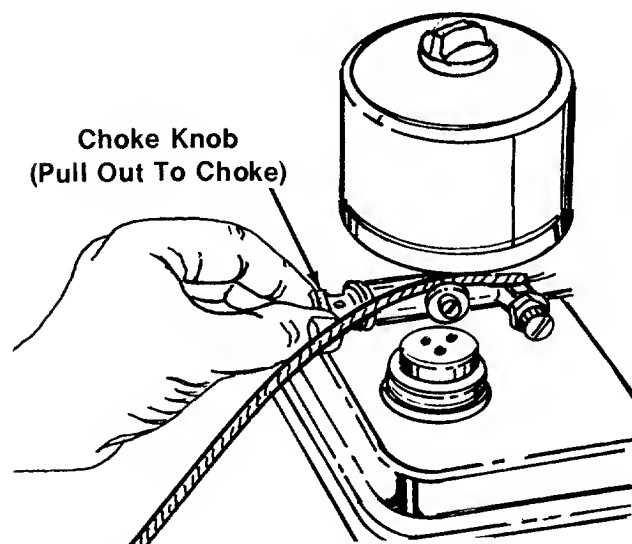

FIGURE 12.
3. Pull choke knob out to choke engine. See figure 12.